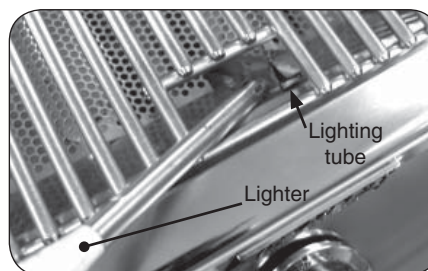

Fig. 15-2 - Manual lighting
**CAUTION:** Always wait five (5) minutes for gas to clear after any unsuccessful lighting attempt.
2. Insert either a burning long-barrel butane lighter or a burning long-stem match through the cooking grid opening to the top of the lighting tube. (Fig. 15-2). For backburners, hold the flame against the surface of the backburner. For charcoal burners, hold the flame near the burner.
4. If the burner does not light, **immediately depress the knob and turn the valve to OFF**. **WAIT FIVE (5) MINUTES** before repeating steps 2 through 4 of the MANUAL LIGHTING instructions.